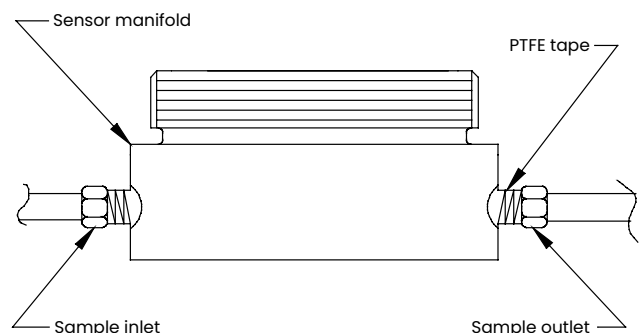

Figure 4: Sensor manifold installation
3. Using PTFE tape as a sealant, connect the sample gas inlet and outlet to the 1/8" NPT ports on the sensor manifold (see figure 4 below). Either port may be used as the inlet or the outlet, as the direction of flow does not matter.